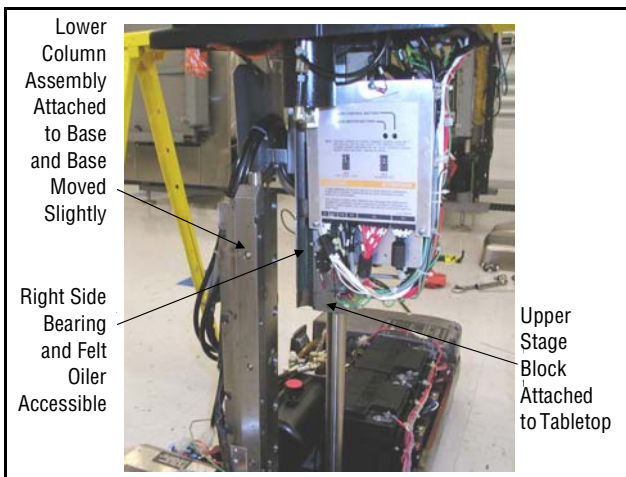

Figure 7-13. Gain Access to Bearings
11. Unlock floor locks to give enough clearance for bottom of ram cylinder. Push base so right side guide shaft clears and gives access to bearings on that side (see Figure 7-13).